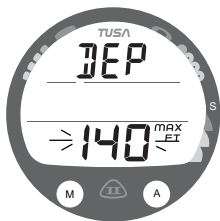

Fig. 20 - SET DEPTH AL
**Set Depth Alarm**, information includes (Fig. 20):